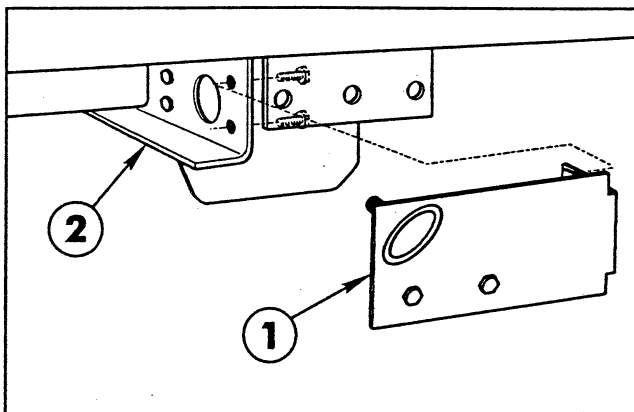

FIG. 10
3. Mount the assembled Relay and Relay Bracket to the Vehicle cross angle as shown in FIG. 10 with two (2) 5/16" x 1" cap screws and lock washers.